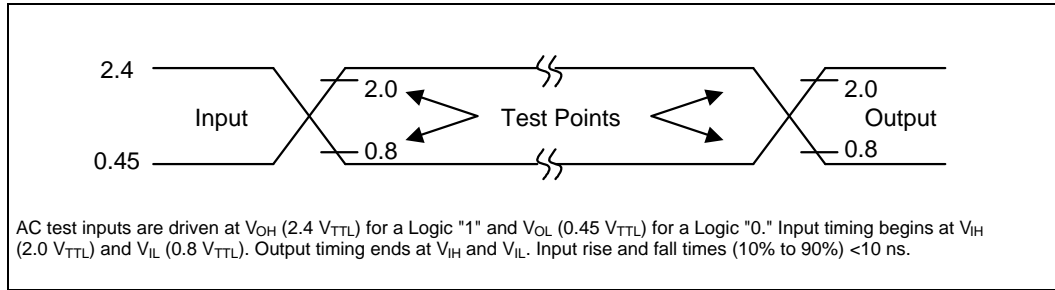

Figure 13. Transient Input/Output Reference Waveform for $V_{CCQ} = 5.0 V \pm 10\%$ (Standard Testing Configuration)
- See Figures 13–15, *Transient Input/Output Reference Waveform for V_{CCQ} = 5.0 V ± 10%*, *Transient Input/Output Reference Waveform for V_{CCQ} = 2.7 V – 3.6 V*, and *Transient Equivalent Testing Load Circuit* for testing characteristics.